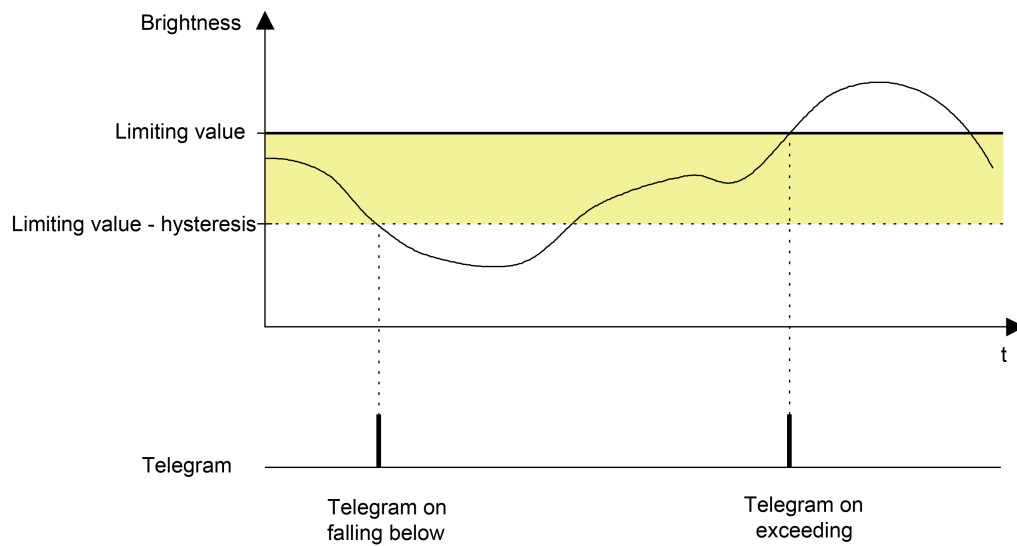

Figure 51: Example 1 of the limiting value definition
1. Brightness limiting value = Upper threshold (Figure 51)